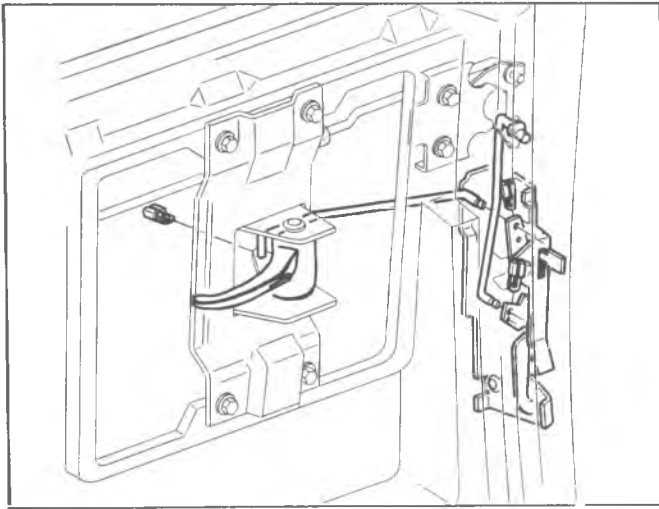

Fig. 41—Lock Assembly and Inside Handle
#### Lock Assembly—Fig. 41
#### Inside Handle—Fig. 41
2. Disconnect control rod from inside handle by removing clip as shown in figure 41.